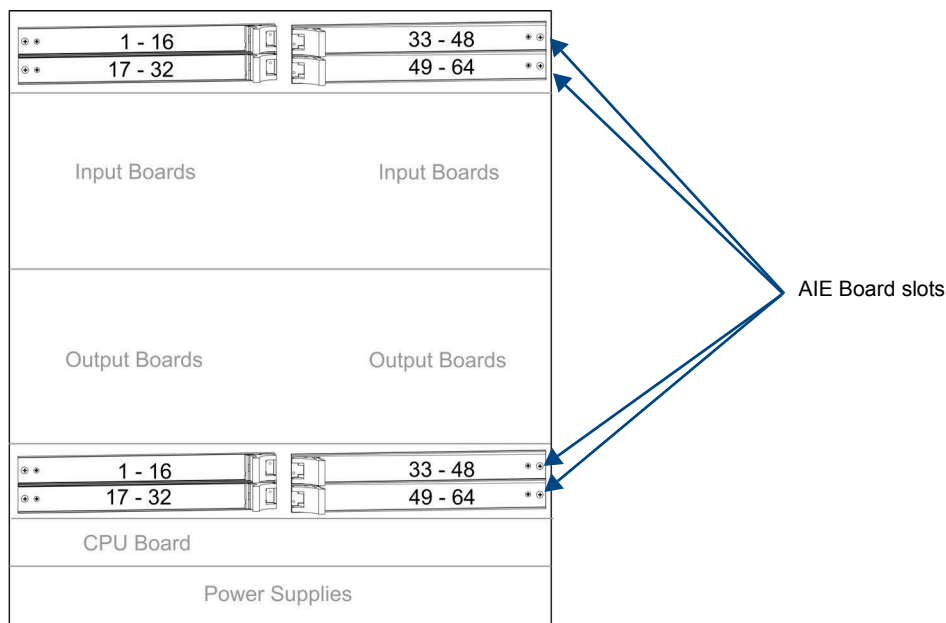

FIG. 76 AIE Board slot numbering on Enova DGX 64
1. Check the numbering on the overlay to determine which board it applies to (see numbering in FIG. 76 on the next page).